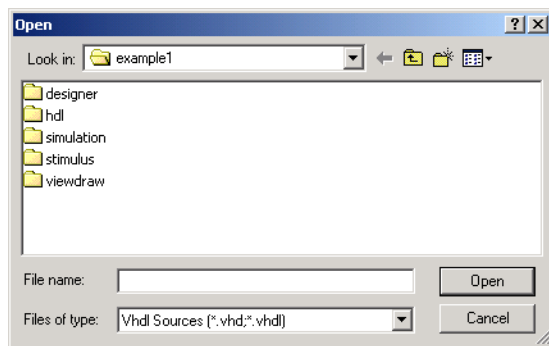

Figure 3-5. Import Dialog Box
1. **From the File menu, click *Import Files*** to display the Import dialog box, as shown in Figure 3-5.